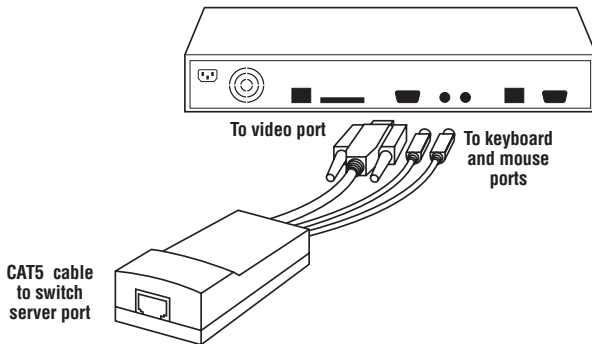

Figure 4-4. SAM PS/2 connections (KV1120A).
2. Connect the SAM PS/2. Figure 4-4 illustrates the SAM PS/2 connections.